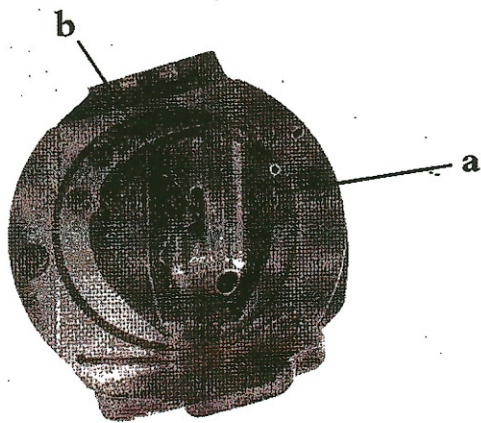

Fig.1.
- Pull the bobbin thread through beneath slit of the spring b (Fig.1) and pull the thread about over 8 cm.